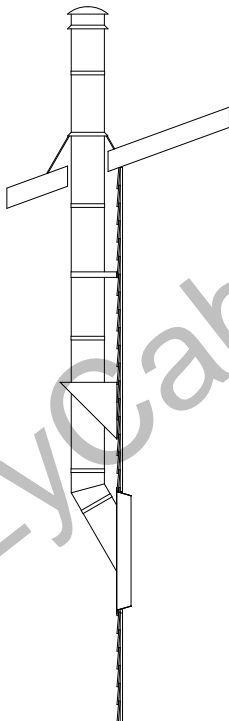

FIGURE 1
2. Fasten the Wall Plug to the structure of the building with the flat section facing the exterior of the building (see Figure 1).